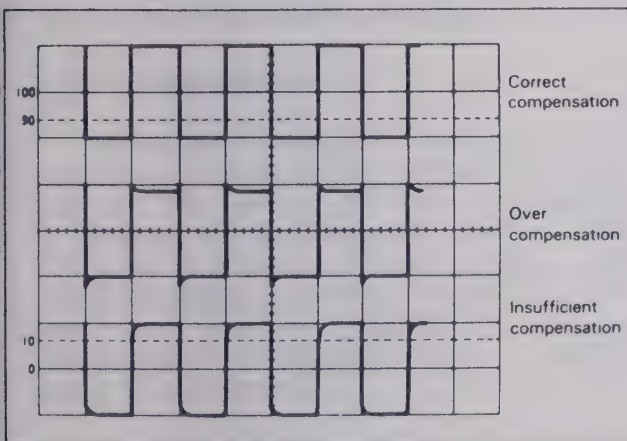

Fig. 27. Probe Compensation Adjustment.
1. Connect probes to **CH 1 (X)** and **CH 2 (Y)** INPUT jacks. Repeat procedure for each probe.
4. Adjust compensation trimmer on probe for optimum square wave (minimum overshoot, rounding off, and tilt). Refer to Fig. 27.